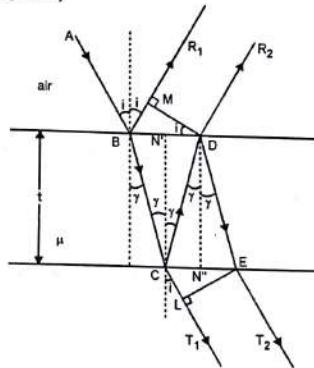

Fig. 1.3.1 : Interference in thin films
- Consider a ray AB of monochromatic light of wavelength λ from an extended source incident at B, on the upper surface of a parallel sided thin film of thickness t and refractive index μ as shown in Fig. 1.3.1.
From Fig. 1.3.1 we have $BC = CD = \frac{t}{\cos r}$
- The transmitted rays CT_1 and ET_2 are also derived from the same incident ray AB and hence are coherent. (Fig. 1.3.1)
- When they interfere, they can give the interference pattern in transmitted system. To find the path difference between CT_1 and ET_2 we drop EL perpendicular to CT_1 . See Fig. 1.3.1.